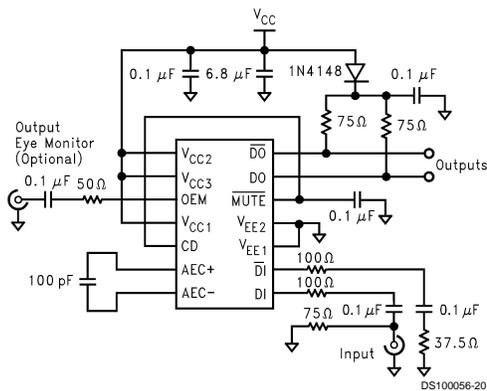

FIGURE 1. CLC014 Equalizer Application Circuit
**Carrier Detect (CD)** is a CMOS output that indicates the presence of equalized data from the filter. This CD output can be connected to  $\overline{\text{MUTE}}$  to suspend changes in the data outputs DO and  $\overline{\text{DO}}$ , if no valid signal exists. This simple configuration prevents random output transitions due to noise. For sparse transition patterns it is recommended that a capacitor be connected to CD as shown in *Figure 1*.
The OEM is a high-speed, buffered output for monitoring the equalized eye pattern prior to the output comparator. Its output is designed to drive an AC-coupled 50Ω coaxial cable with a series 50Ω backmatch resistor. The cable should be terminated with 50Ω at the oscilloscope. *Figure 1* shows a schematic with a typical connection.
The CLC014 operates from either +5V or -5.2V single supplies. Refer to *Figure 1* when operating the part from +5V. When operating with a -5.2V supply, the  $V_{EE}$  pins should be bypassed to ground. The evaluation board and associated literature provide for operation from either supply.